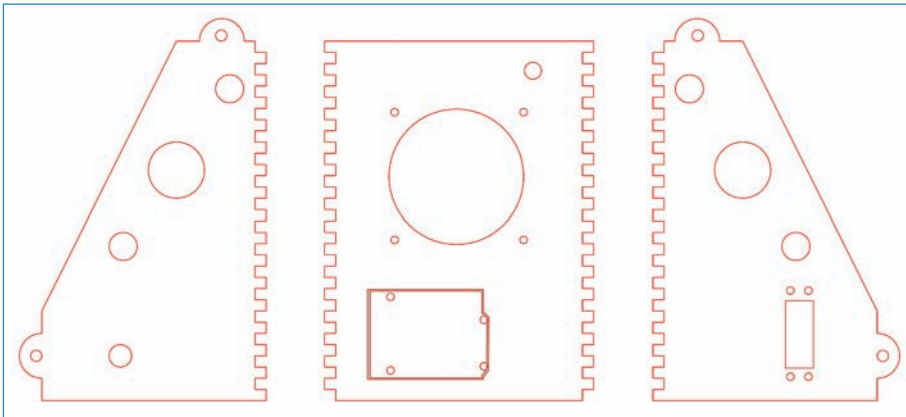

FIGURE 13.10 Laser-cut this design to make the BubbleBot's chassis.
1. Laser-cut the enclosure out of quarter-inch MDF, shown in Figure 13.10. You can download the design from <https://github.com/n1/Arduino-For-Beginners>. Alternatively, simply build a wooden chassis as you normally would and drill the holes for the hardware.